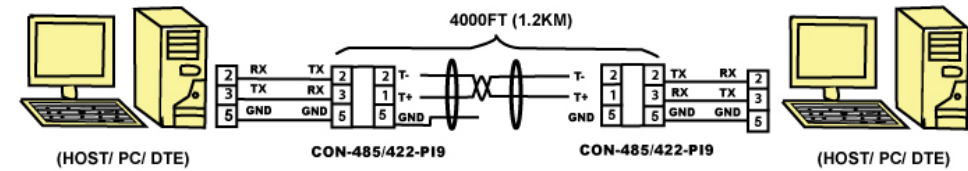

FIGURE 1: EXTENDING RS-232 DATA DISTANCE IN RS-485 MODE
- Configure jumper settings to place two CON-485/422-PI9 converters in RS-232 to RS-485 mode. Perform a loop back test on a pair of CON-485/422-PI9 converters. Using figure 1, attach the two CON-485/422-PI9s to two serial ports on a PC and using two instances of a HyperTerminal program send a character from one and see if it echoes to the other. This will test both transmit and receive functions of the converter in RS-485 mode.